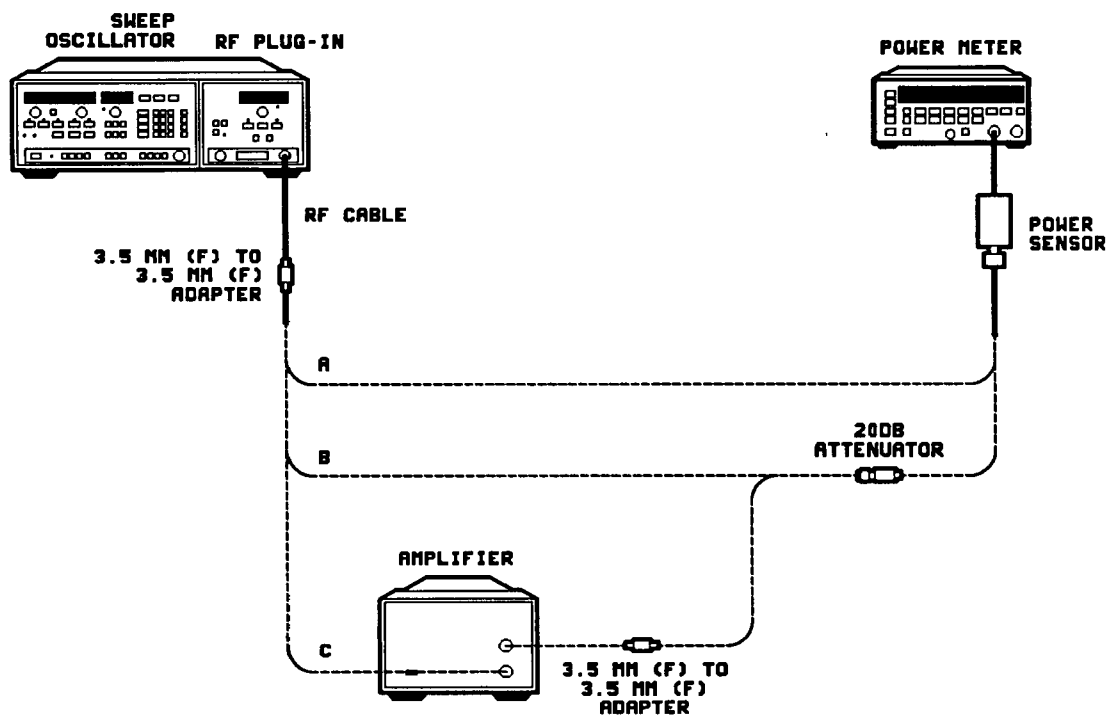

Figure 4-1. Maximum Output Power Test Setup
- a. Connect the equipment as shown in Figure 4-1, point **A**, with the power sensor connected to the 3.5 mm(f) adapter (without the amplifier, the second 3.5 mm(f) adapter, or the 20 dB attenuator).
- a. Connect the 20 dB attenuator between the adapter and the power sensor, as shown in Figure 4-1, point ③.
- a. Connect the equipment as shown in Figure 4-1, point ④, with the amplifier and the second 3.5 mm(f) adapter connected between the first 3.5 mm(f) adapter and the power sensor (you must use the same 20 dB attenuator as in the previous steps).